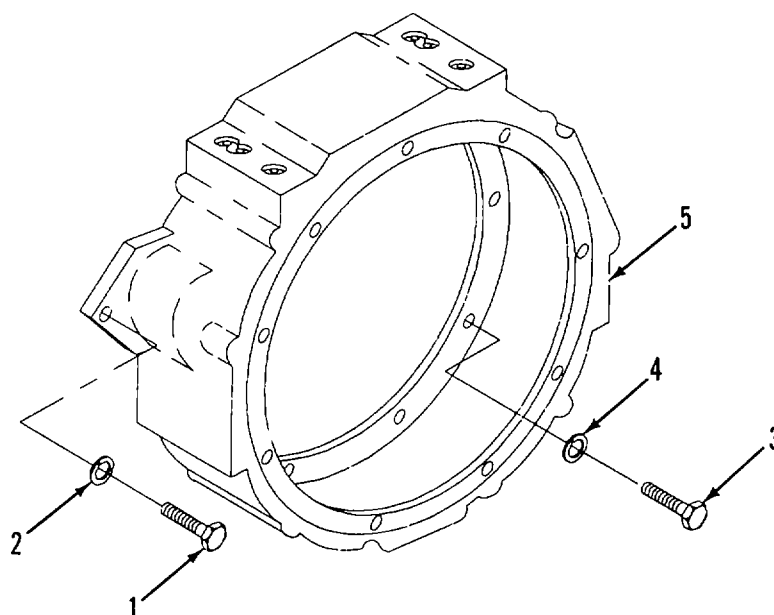

Figure 3-25. Flywheel Housing
a. REMOVE. (Figure 3-25)
- (1) Remove bolt (1) and lockwasher (2) from outside of flywheel housing (5).
- (2) Remove bolts (3), lockwashers (4) and flywheel housing (5).